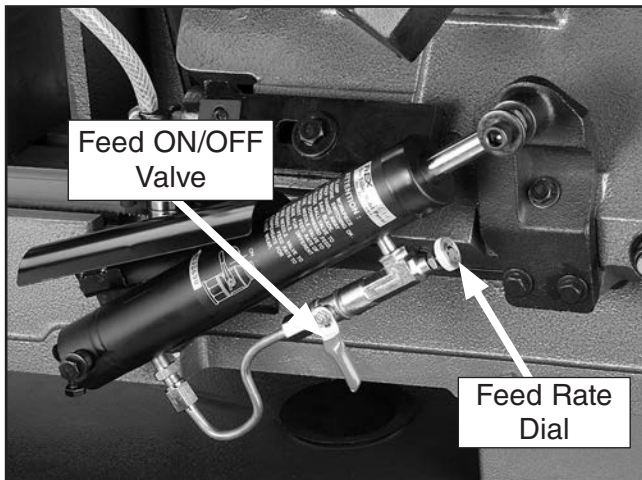

Figure 10. Feed ON/OFF valve and feed rate dial.
5. Raise the bandsaw and close the feed ON/OFF valve to keep the saw in place (see **Figure 10**).